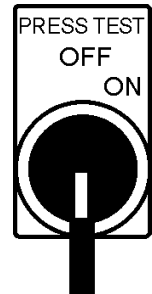

Figure 31. Pressure Test On/Off Switch
- The Pressure Test switch (Figure 31) is a self-diagnostic test switch, that when activated will test the pressure of the system. This switch will be discussed in the maintenance and troubleshooting section of this manual.